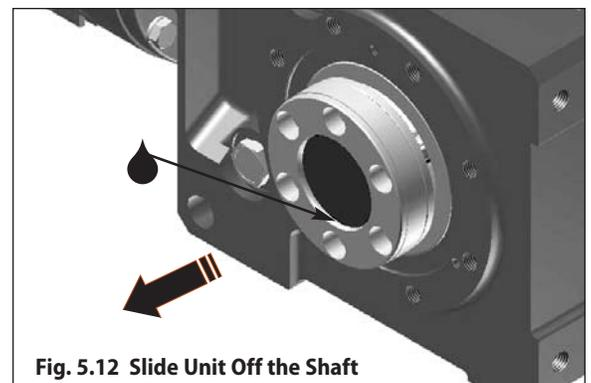

Fig. 5.12 Slide Unit Off the Shaft
Step 6 – After releasing the bushing, apply a liquid penetrant to the shaft where it contacts the bushing. Allow time for the liquid to penetrate between the bushing and the shaft, then carefully slide the unit off of the shaft. (see Fig 5.12). **Note: If the bushing releases, but the unit cannot be removed from the shaft, apply a puller to the bushing to push the shaft free.**